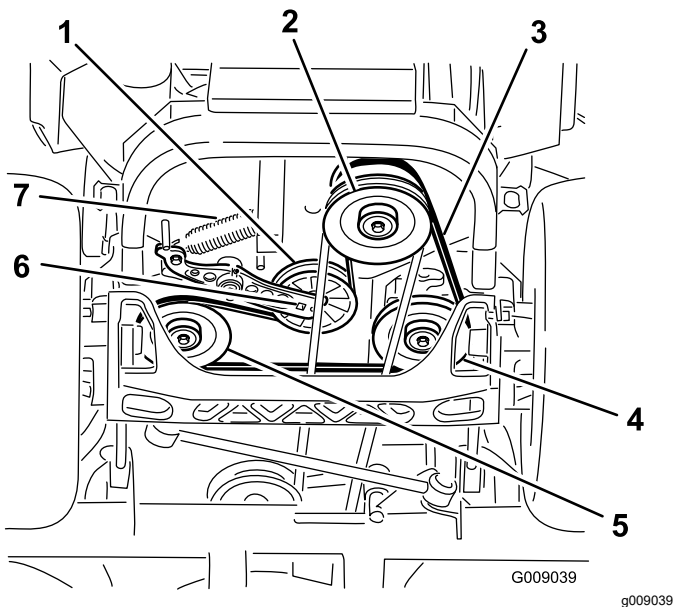

Figure 94
4. Raise the machine and support it with jack stands (Figure 94).
5. Use a ratchet in the square hole in the idler arm to remove the idler spring (Figure 94).
6. Unhook the idler spring from the frame (Figure 94).
9. Using a ratchet in the square hole in the idler arm, install the idler spring to the frame (Figure 94).